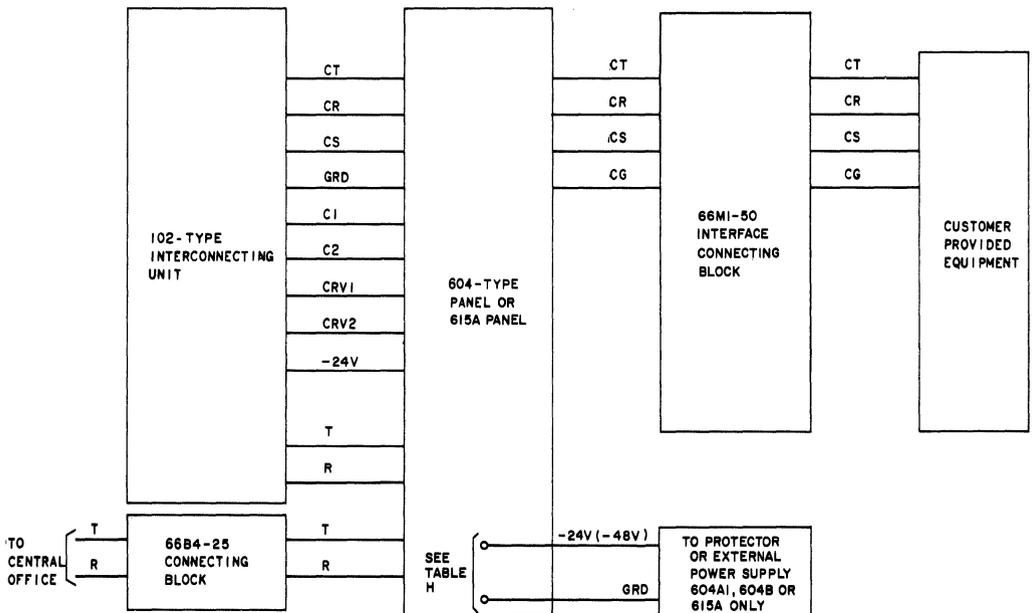
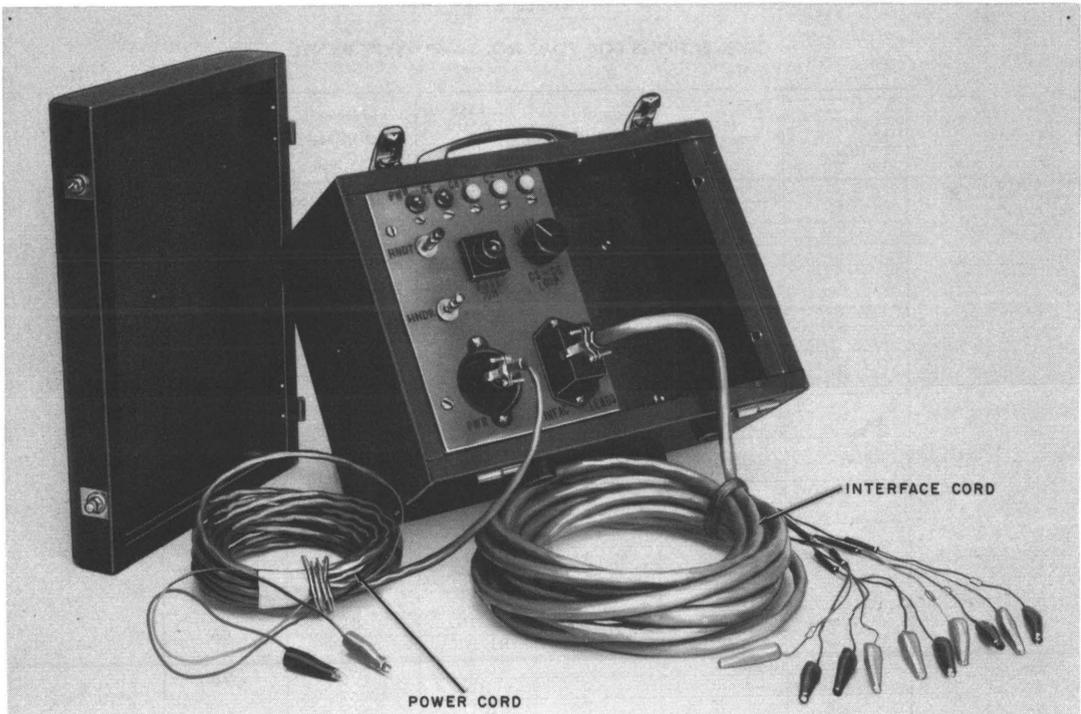

Fig. 8—Block Diagram—102-Type Interconnecting Unit With 604-Type or 615A Panel
Fig. 12—142A Test Set
604-Type Panel (Fig. 8 and Tables B, C, D, E, H, I, and J)
615A Panel (Fig. 8 and Tables F, G, and H)
unit, or CP dc power supplied through the KS-20944, List 1 protector, to the 66T1 connecting block on the rear of the 615A panel as shown in Fig. 8 and Table H. Connect a separate ground wire to the rack or 16C apparatus mounting. Refer to the appropriate section in Division 518 for proper grounding of power plants. Proper grounding of equipment and power unit is important to prevent damage from power line surges.
3.20 When voltage protection is required, the KS-20944 protector must be mounted externally and wired to the power supply terminals of the 69G apparatus mounting (Fig. 7) or the 604-type and 615A panel (Fig. 8).
(1) Supply talk battery by connecting a 500-ohm resistor from the -24V supply to terminal CR and strap terminal CT to ground. (Make all connections on the telephone company side of the interface connecting block, Fig. 8.) A 2A KTU or 31A KTU may be used for battery feed instead of the 500-ohm resistor. Refer to Section 518-112-421 for connections. Connect a 1013A (or equivalent) hand test set to terminals CT and CR.
(2) Connect a wire strap across terminals CS and CG. K5 relay will operate completing the talk path, and the toll operator will answer the call. Verify satisfactory transmission.
B. With 142A Test Set (Fig. 12)
(1) Connect the power cord of the 142A test set to the -24V power supply (same supply as for IU) as follows:
(2) Connect the interface cord of the 142A test set to the telephone company side of the interface block as follows:
(3) Connect a 1013A (or equivalent) hand test set to the HNDR and HNDT terminals of the 142A test set with the MON-TALK switch in the MON position. Set the CS-CG LOOP switch to the 18-ohm position for a 102A IU or the 100-ohm position for the 102B IU.